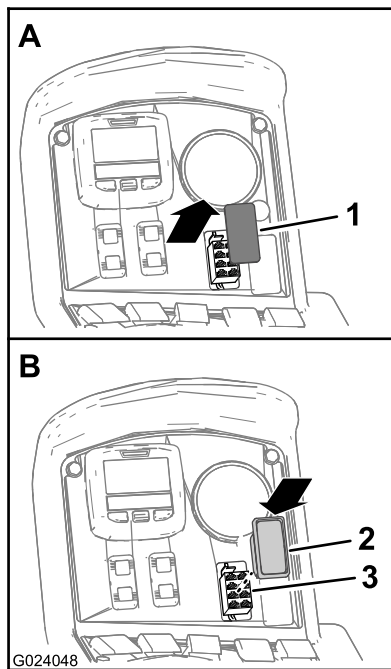

Figure 14
1. Locate the plug for the rinse tank switch on the sprayer console, and remove the plug (Figure 14).
3. Install the switch to the box connector through the console (Figure 14).
4. Push the switch into the dash to mount it (Figure 14).